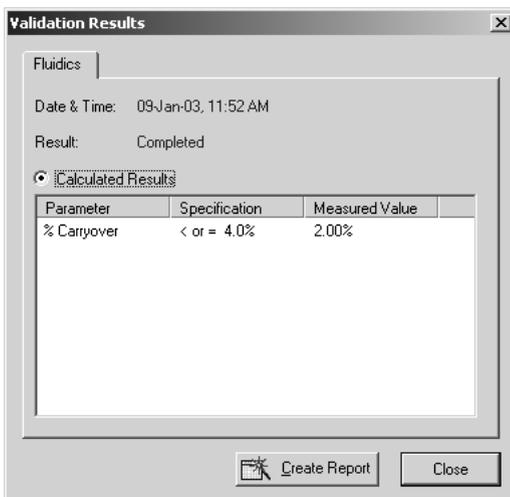

Fig. 7. Fluidics validation results.
10. When the procedure is completed, values will be displayed in a dialog box as shown below: (Figure 7)